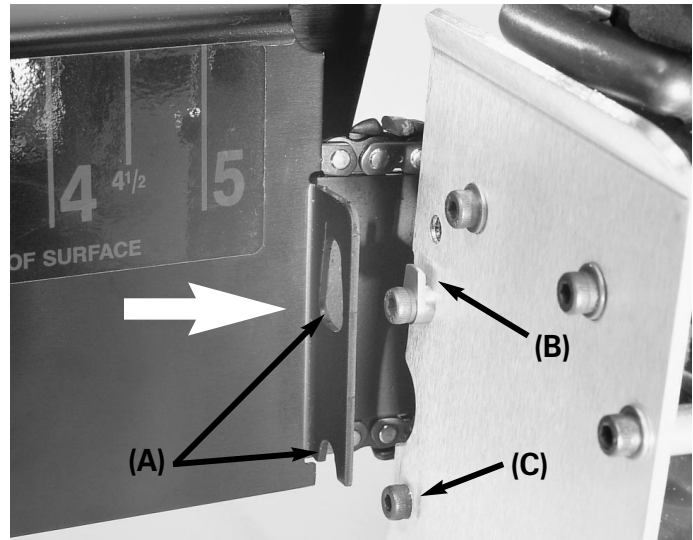

Fig. 18. Slide mounting slots (A) onto locking key (B) and bolt (C)
Place the inner section over the chain and guide bar, sliding the mounting slots (A) onto the locking key (B) and mounting bolt (C) on the guard deflector. Push down to lock in place. (Fig. 18 & 19).
- (1) Remove the adjustment knob.
- (2) Pull off the outer section. (Safety pin will release as you pull outer section off)
- (3) Remove the inner section by pulling up from the locking key. (Fig 18 - See page 13)